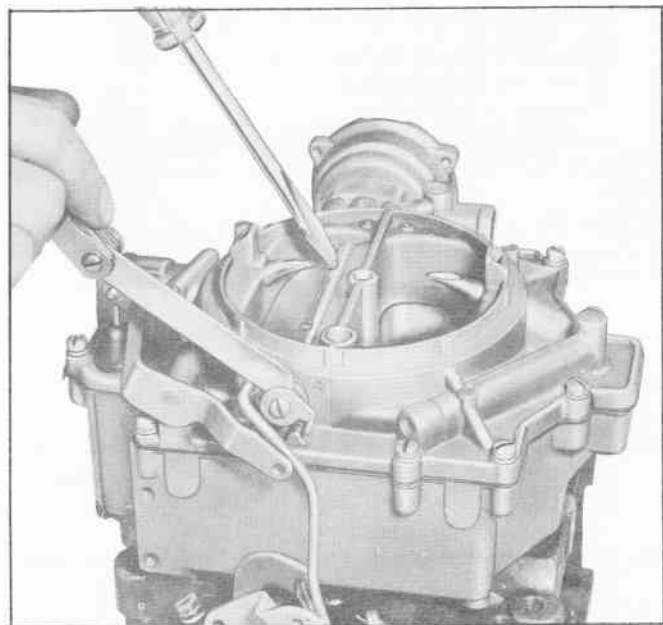

Fig. 24 Spacing the Choke Valve
10. To provide correct fit of choke valve in air horn push lightly on choke shaft to obtain a minimum clearance of .020" between trip lever and counterweight (Fig. 24). While holding in this position, tighten choke valve retaining screws.